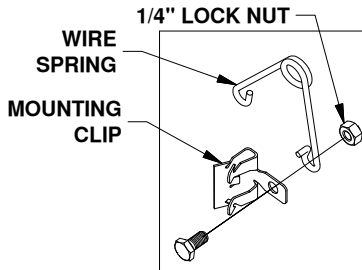
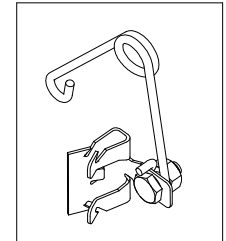

Figure D1: Leveling kit parts.
Figure D2: Assembled leveling kit.
1. Locate the 1/4" cap screw and nut, along with the wire tension spring and mounting clip. Pass the 1/4" cap screw through the mounting clip and the wire spring, as shown in Figure D1. Thread the 1/4" lock nut onto the 1/4" cap screw. Tighten the lock nut just enough that the spring will stay in place but will still be able to rotate around the bolt if needed, see Figure D2.